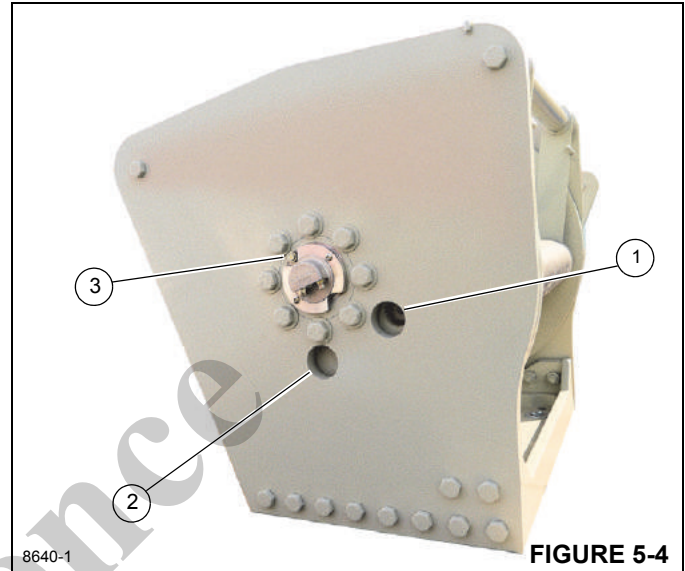

FIGURE 5-4
- Rotate the drum until the oil fill/level plug (1, Figure 5-4) is visible in the inspection hole.
- Remove the fill/level plug (1) and visually inspect the oil level. The oil should be level with the bottom of the inspection hole. If more oil is needed, add and reinstall fill/level plug.
- To drain and add new oil, remove the vent plug (3, Figure 5-4). Remove the drain plug (2) with a hex head socket and then screw a 1" pipe into the drain plug hole (2) to allow the oil to drain. Drain hydraulic oil. Remove the 1" drain pipe and install drain plug (2).
- To fill with oil, rotate the drum so the fill/level port (1, Figure 5-4) is visible through the upper hole. Install a 1" pipe with elbow into the fill hole (1) to assist in adding oil. Remove fill/level plug with a hex socket and fill gear box